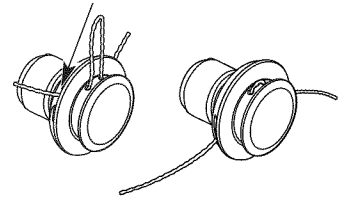

Fig. 17
5. Pull the line and make sure the line is against the hub and is fully extended through the positioning tunnels (Fig. 17).